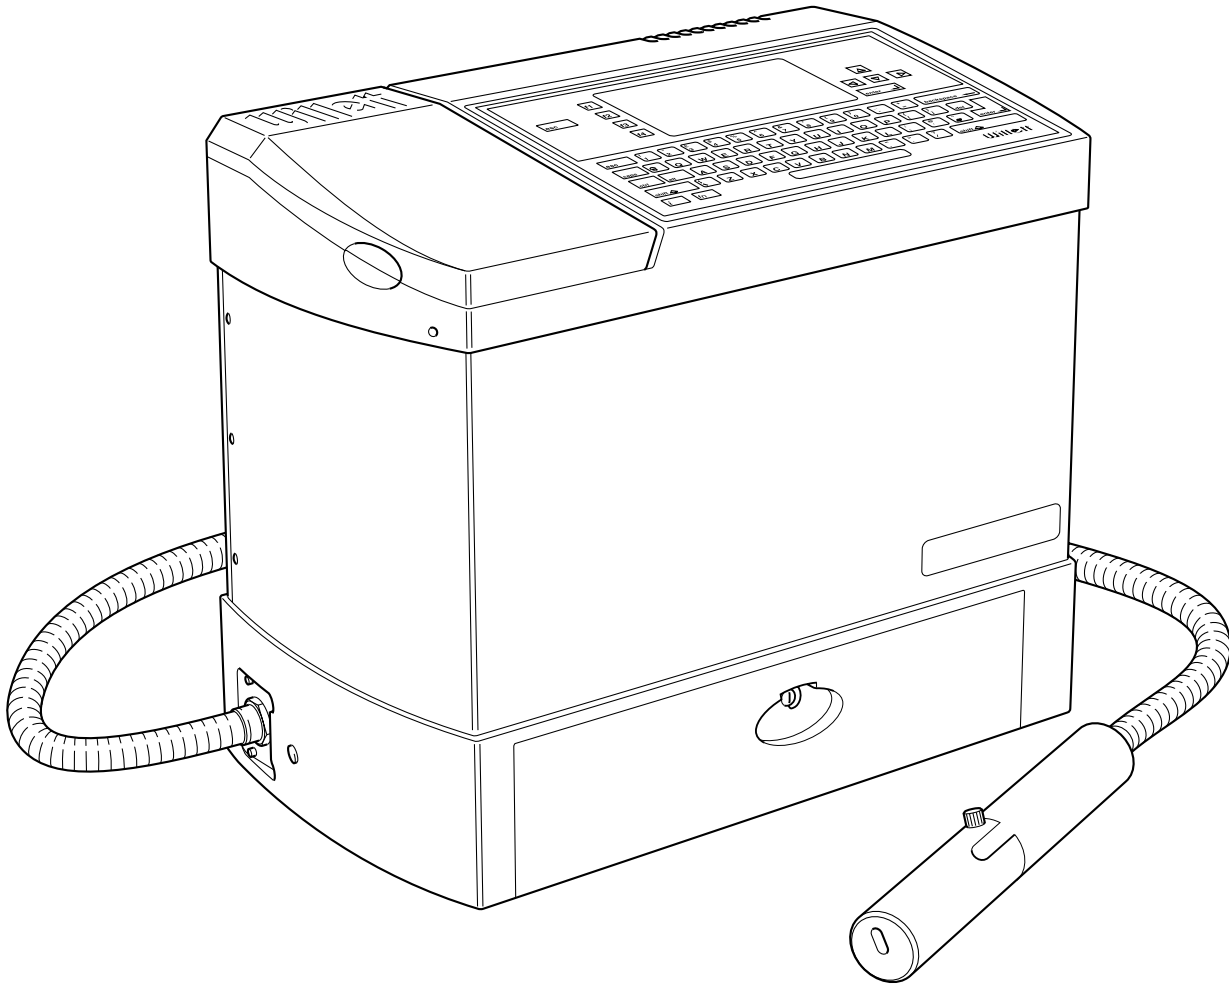

Fig 12.1 400 Series CIJ printer
- 1 Figure 12.1 and the associated table give ordering information for the 400 Series CIJ printers. Figure 12.2 and Table 12.2 give details of the Stand and Traffic Light System.